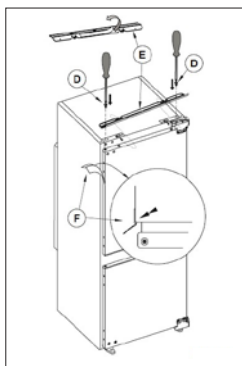

Fig. 7
5. Remove the foil from the double-sided adhesive tape located on the underside of the compensating cover (E) and put the cover to a dedicated place at the top of the refrigerator (Fig. 7).
6. Secure the cover (E) with two screws (D) on the right and left side of it. Do not screw into the centre of the cover!
7. Shorten the sealing (F) according to the refrigerator door height and attach it on the outside of the door (see Fig. 7).